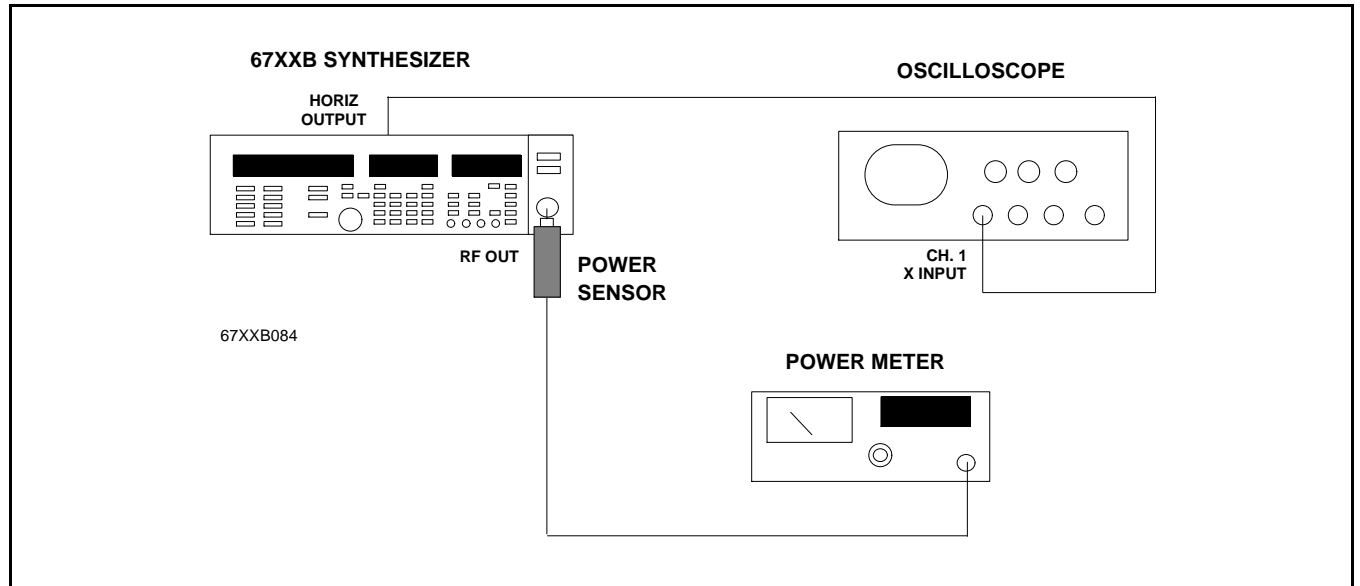

Figure 2-13. Equipment Setup for Power Level Accuracy and Flatness Verification
1. Connect the equipment as shown in Figure 2-13.